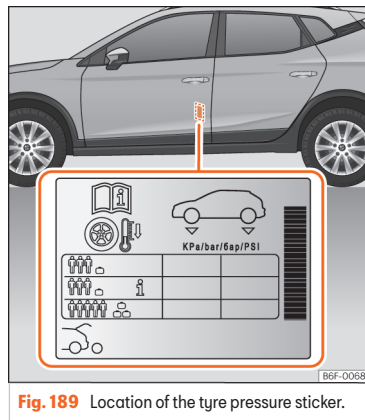

Fig. 189 Location of the tyre pressure sticker.
- Adjust tyre pressure to the load being carried by the vehicle »» **Fig. 189**.
The tyre pressure values are shown on the sticker located on the rear frame of the front left door >>> **Fig. 189**.
The tyre pressure must be adjusted according to the load the vehicle is carrying. If the vehicle is going to be fully loaded, increase the tyre pressure to the maximum load value shown on the sticker >>> **Fig. 189**.
In the case of a minimised temporary spare wheel (125/70 R16 or 125/70 R18) inflate to a pressure of 4,2 bar as indicated on the tyre pressure label >>> **Fig. 189**.
Depending on the vehicle, tyre pressure can be adjusted to medium load to improve driving comfort [tyre pressure **i** >>> **Fig. 189**]. When driving with comfort tyre pressure, fuel consumption may increase slightly.
- **The driver is responsible for ensuring that all of the vehicle tyres are correctly inflated to the right pressure. The recommended tyre pressure is indicated on the label >>> Fig. 189.**
- **Tyre pressure should be as indicated on the label when the tyres are cold at all times >>> Fig. 189.**